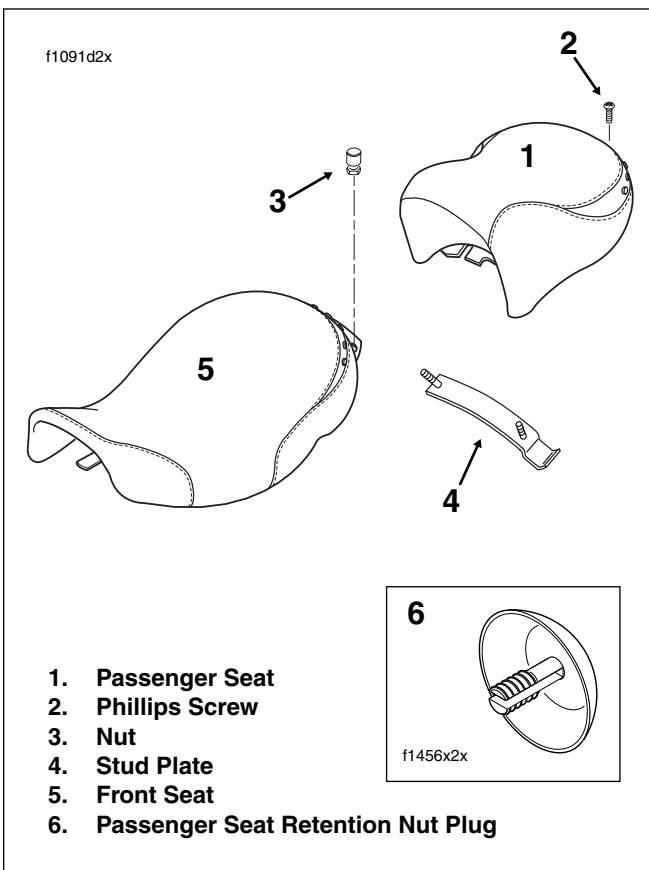

Figure 2-129. Seat Assembly - FLHR
1. Remove Phillips screw to detach passenger seat mounting bracket from top of rear fender. See Figure 2-129. Slightly lift up back of passenger seat and carefully slide toward rear of motorcycle to detach from front seat mounting bracket nuts.
The FLHR seat can be converted to a solo seat by removal of the passenger section. When the solo seat configuration is desired, turn the passenger seat upside down and locate the chrome plug pressed into the seat frame hole. See inset of Figure 2-129. Remove the plug and press into the seat retention nut hole using finger pressure only.